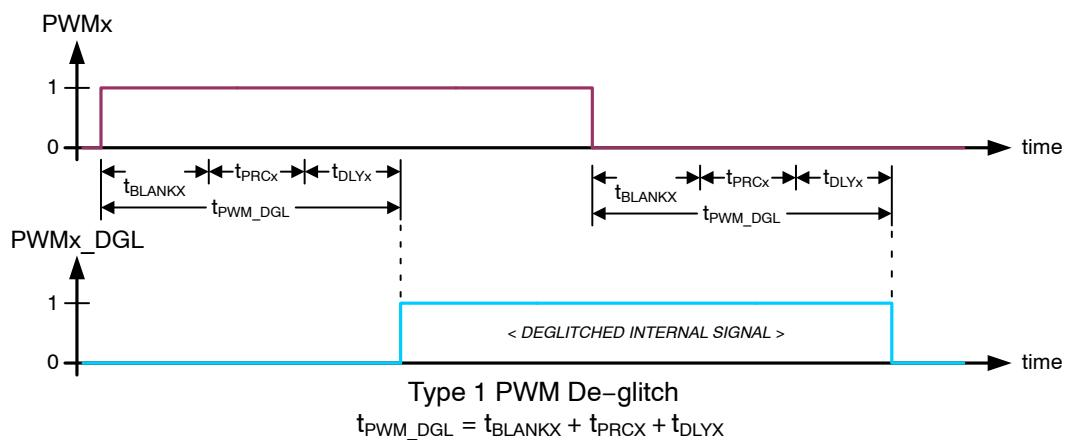
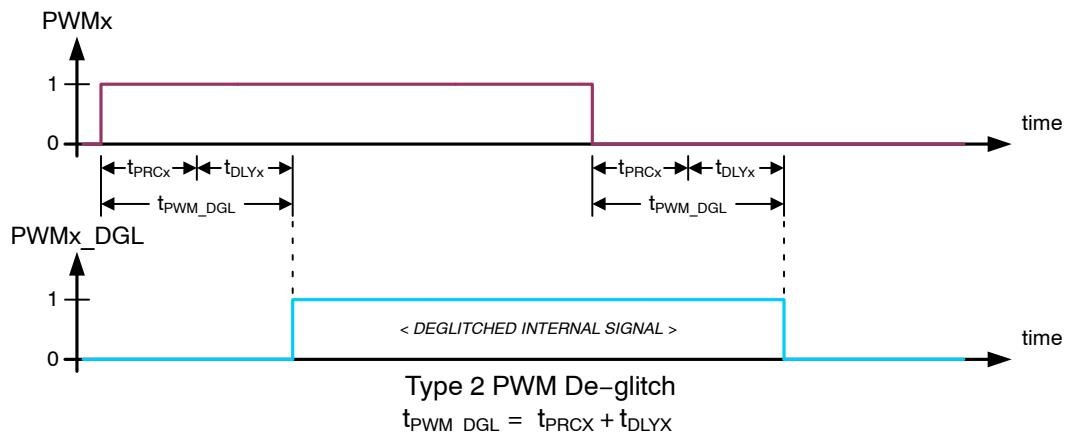

Figure 10. Type 1 PWMx Input De-glitch – CR14.DGLx = 0
Figure 11. Type 2 PWMx Input De-glitch – CR14.DGLx = 1
When multiple PWM_x inputs are needed to be active, the scheduled PWM signals should be offset in time to avoid degradation of the VDS overload detection due to crosstalk (see § *Overload Protection*). The minimum offset should be based on the t_{PWM_DGL} times appropriate for the respective channels (see § *Switching Behavior of Half-bridge Drivers*, Figure 10 and Figure 11).
- adaptive PWM input de-glitch construction when in half-bridge configuration is selected by $DGLx[6:0]$ bits (see Figure 10, Figure 11, Table 21 and Table 22).
When operating HB1...HB7 in PWM mode and in half-bridge configuration, type 1 de-glitch is selected when CR14.DGLx = 0 (see Figure 10) and the adapted time is given by:
Type 2 de-glitch is selected when CR14.DGLx = 1 (see Figure 11) and the adapted time is given by:
- the PWM_x_DGL resulting from the channel's operating configuration (see § *Switching Behavior of Half-bridge Drivers*, Figure 10 and Figure 11);